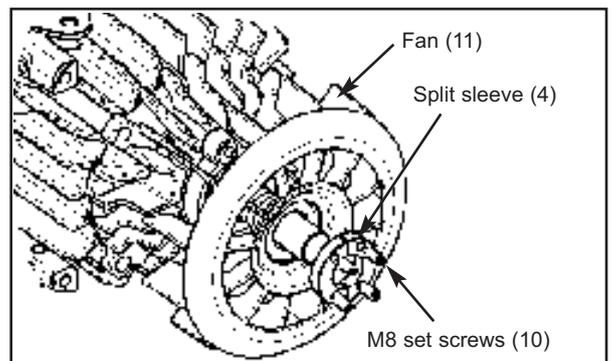

Figure 28
6. Attach the fans (11) and split sleeves (4) with the M8 set screws (10) coated with Loctite® \* 243. Torque the set screws to 11 lbs ft (15 Nm) ; See figure 28.